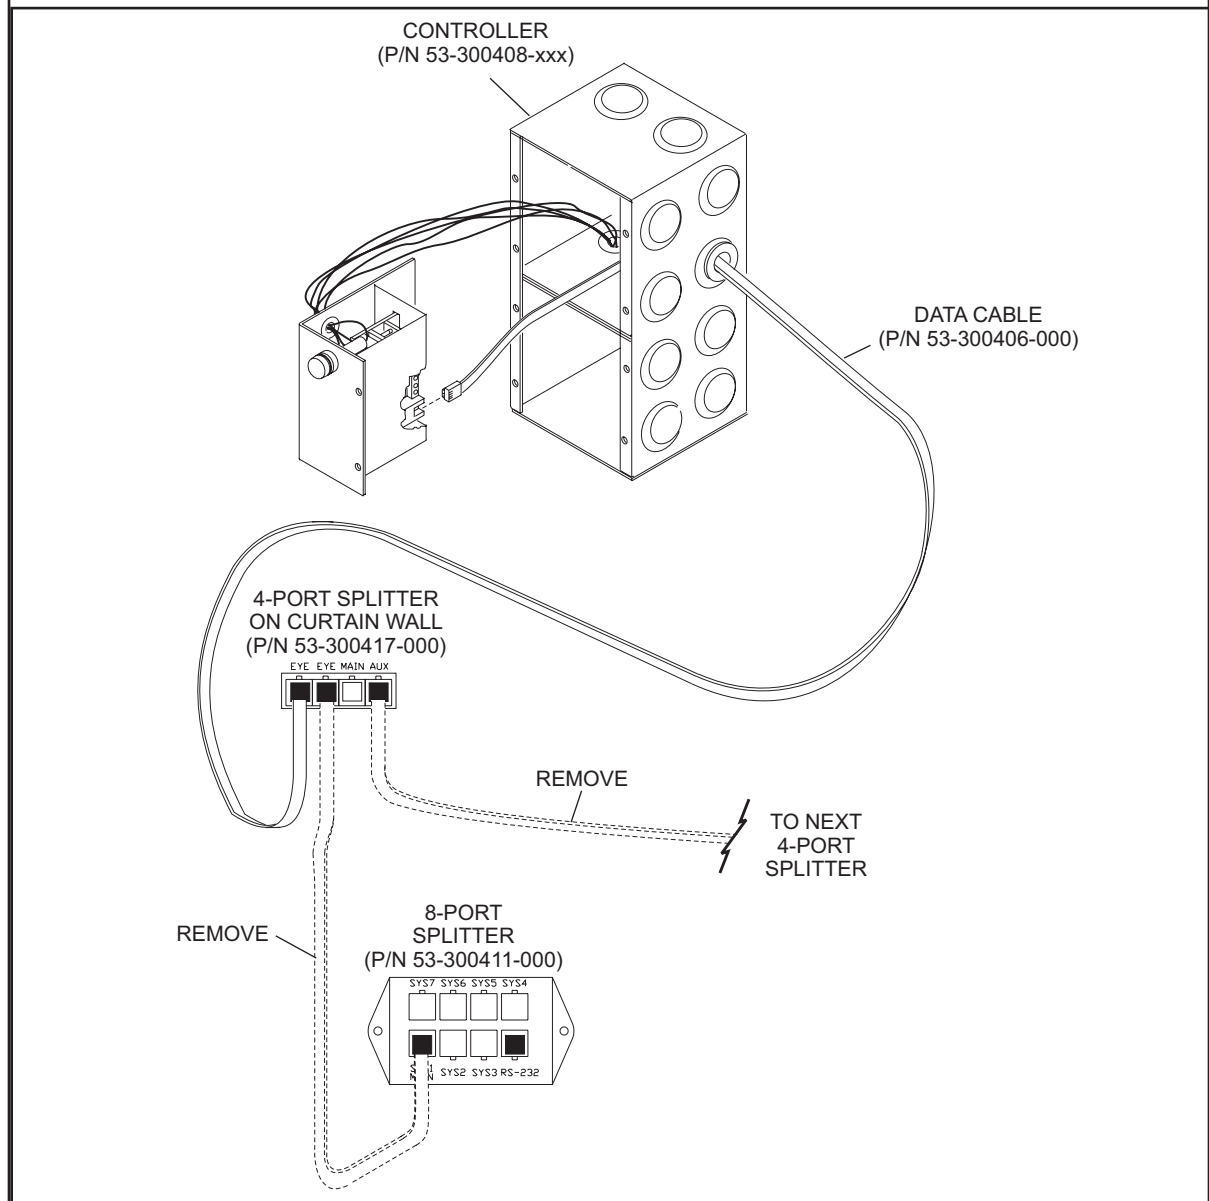

Figure 81
1. Unplug the input/output cables on curtain wall splitter (the cables connected to other controllers in the daisy-chain). Refer to *Figure 81*.